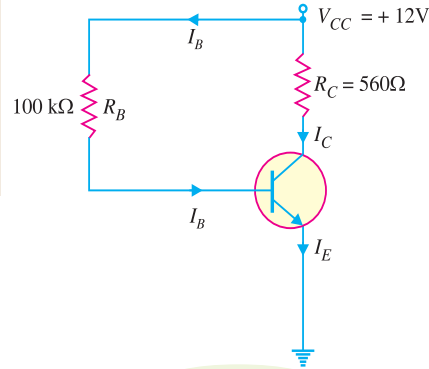

Fig. 9.11
**Example 9.8.** A \*base bias circuit in Fig. 9.11 is subjected to an increase in temperature from 25°C to 75°C. If  $\beta = 100$  at 25°C and 150 at 75°C, determine the percentage change in Q-point values ( $V_{CE}$  and  $I_C$ ) over this temperature range. Neglect any change in  $V_{BE}$  and the effects of any leakage current.